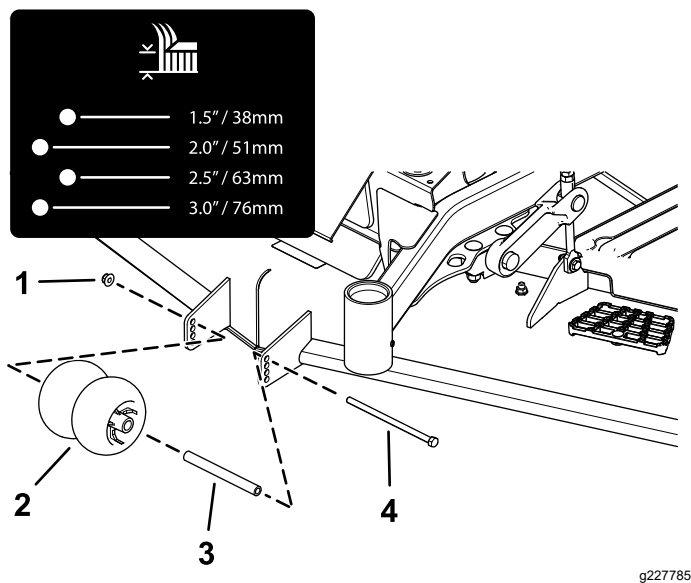
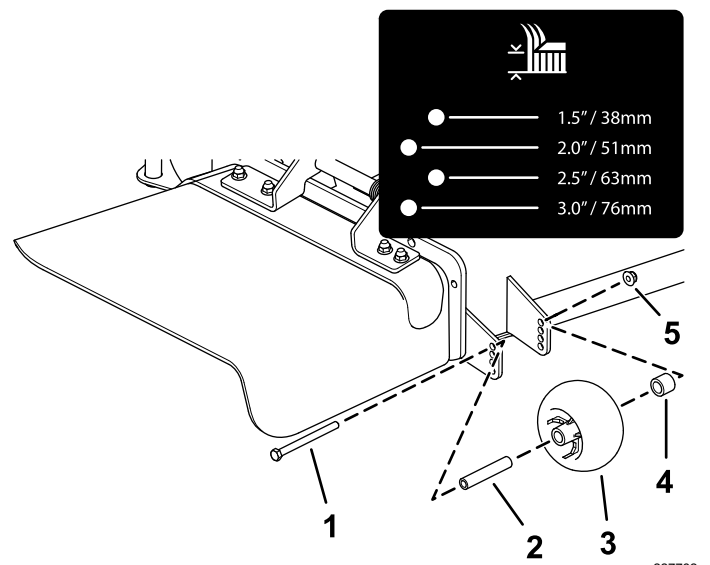
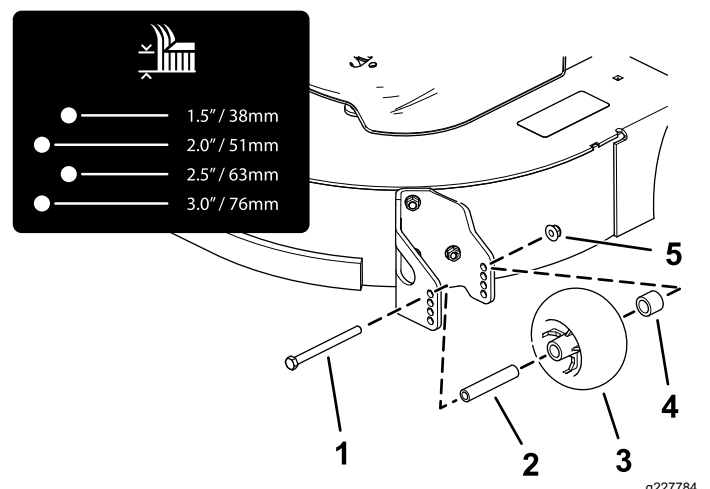
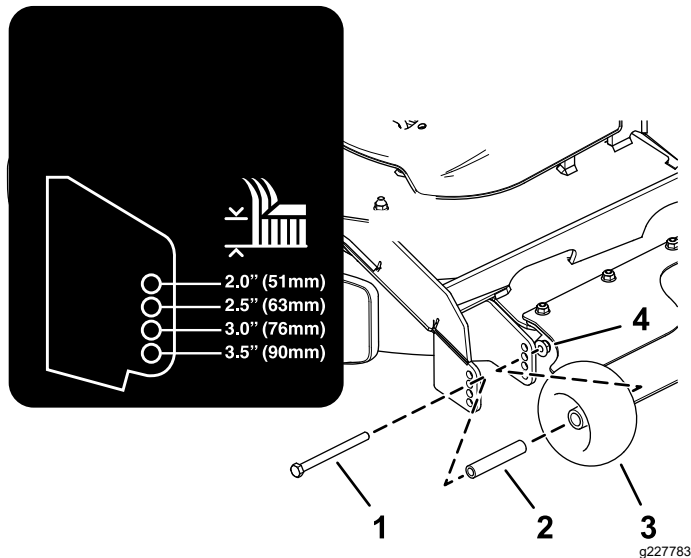

Figure 26
Figure 27
Figure 28
Figure 29
4. Adjust the anti-scalp rollers as shown in Figure 26, Figure 27, Figure 28, and Figure 29.